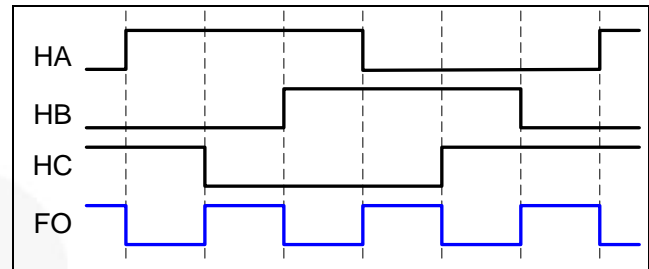

Figure 9. FO Output
- FO (three pulses per revolution, see *Figure 9*)